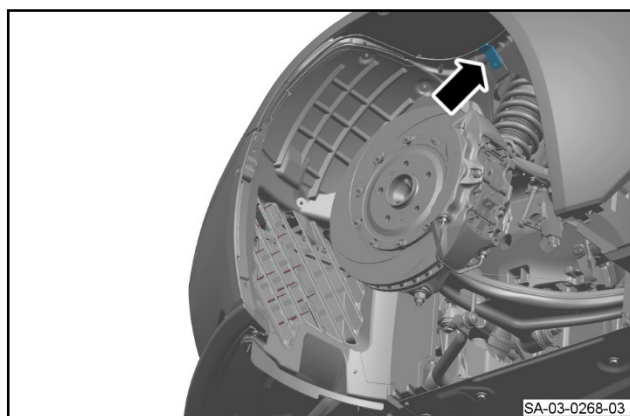

Figure 3
4. Remove the reinforcement bracket for the wheel arch liner (refer to Figure 3).